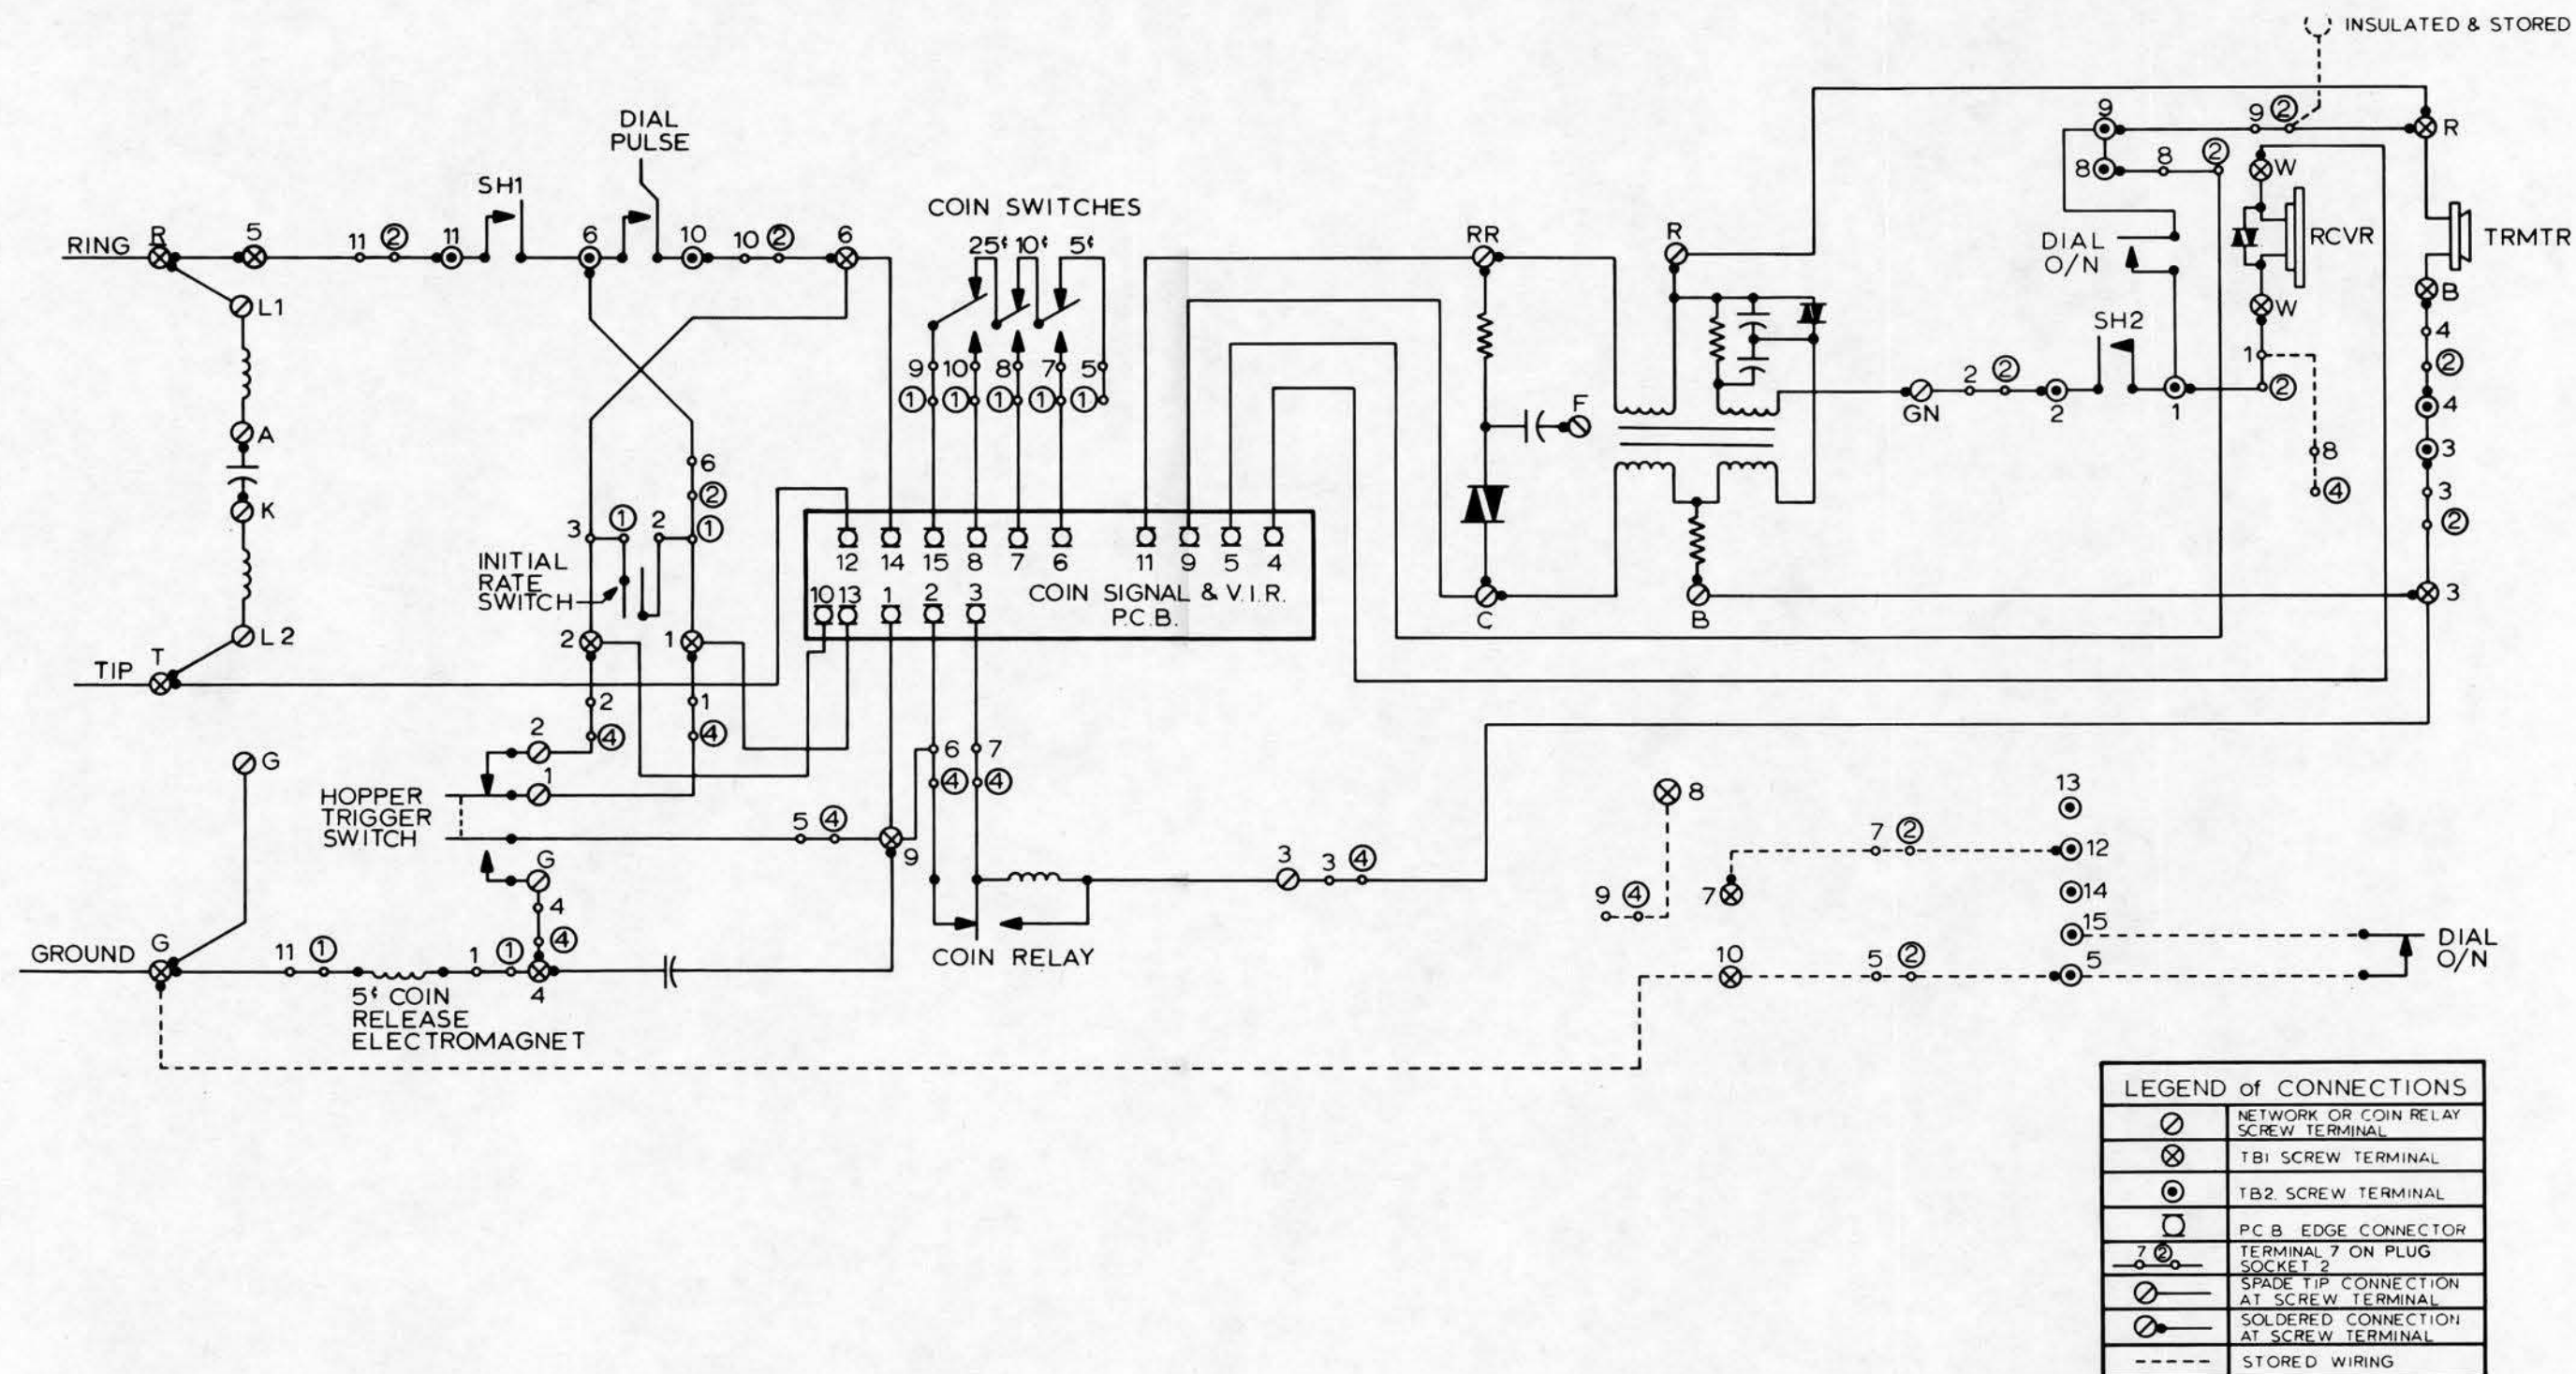

Fig. 3 — Schematic Diagram of QSD400A1 Coin Telephone Set
2.06 The schematic diagrams for the QSD400A1 and QSD2400A1 coin telephone sets are shown in Fig. 3 and 4.